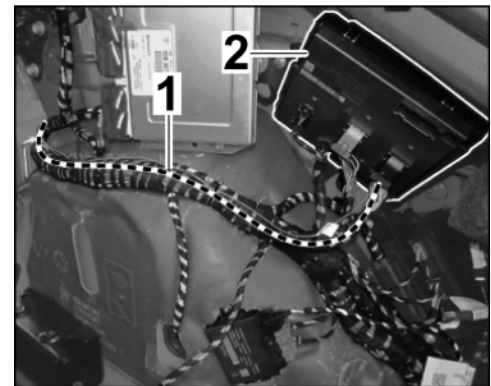

Figure 14
- 2.3.8 Route YE/GY line along the wire harness in the luggage compartment at the right to the rear-end electronics control unit (⇒ *Figure 14*).